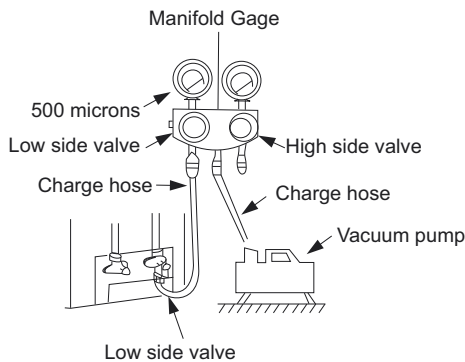

Fig. 18 – Manifold
- 3 Fully open the low side of manifold gage (see Fig. 18).